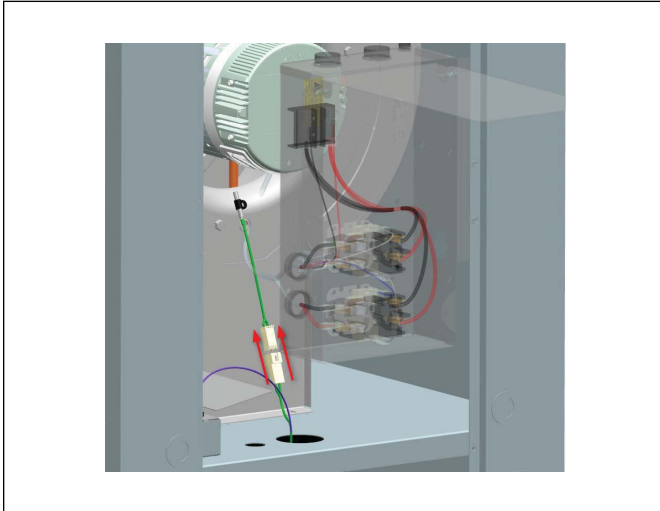

Figure 42
2. Disconnect 2 pin connectors from each other and discard ~6" section of harness that contains the barrel shaped thermistor as shown in Figure 42.